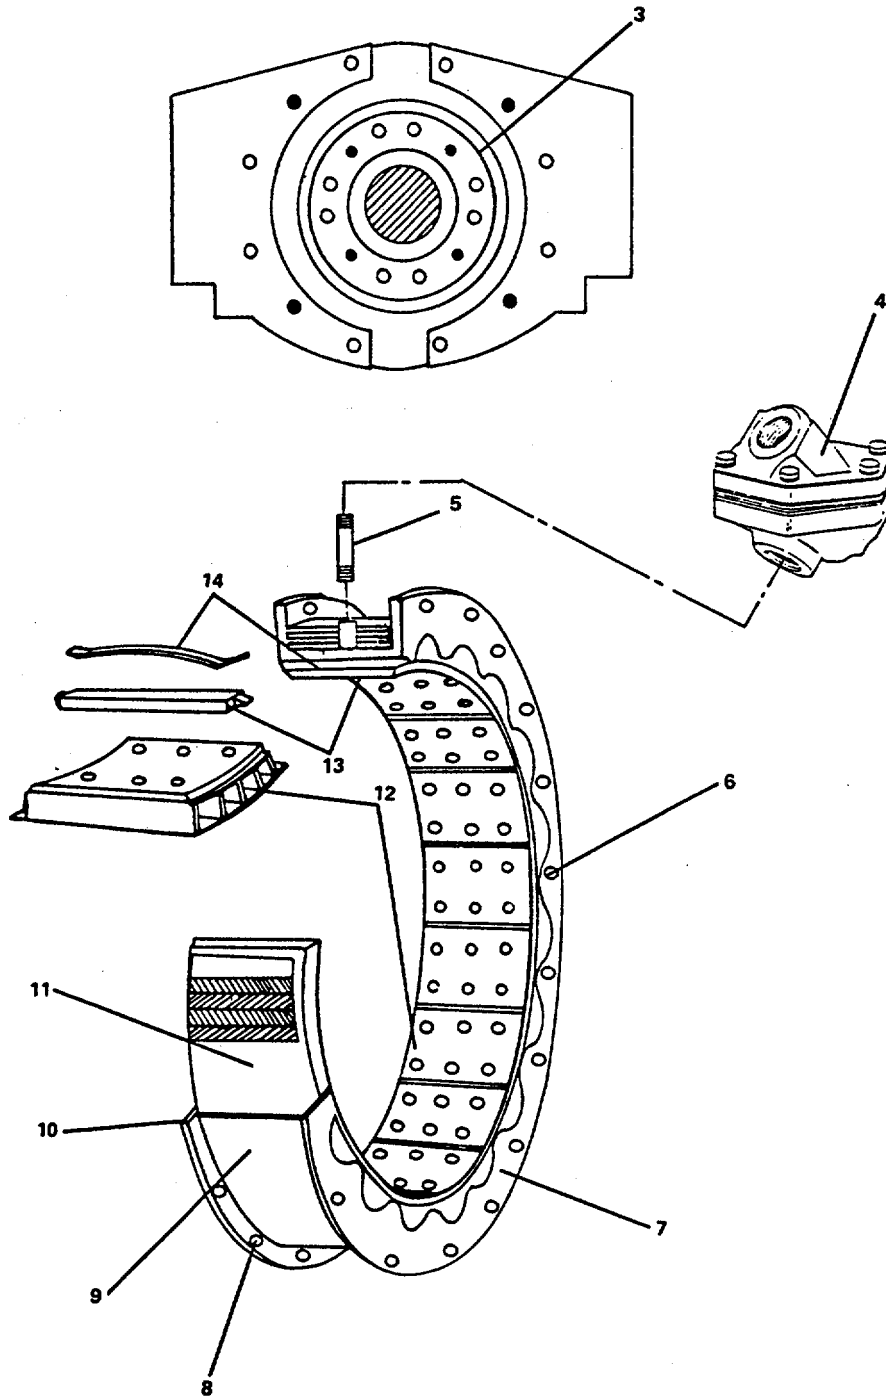
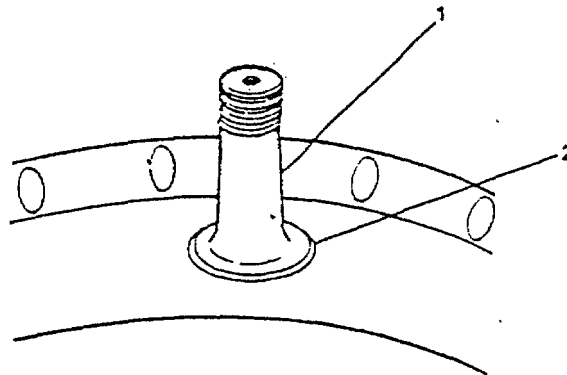

FIGURE 3-191. Expander Tube Brake Drum.
FIGURE 3-192. *Rubber Actuating Tube.*
- (1) Disconnect air tubing from IN port of quick exhaust safety release valve (4).
- (2) Remove quick exhaust safety release valve (4) from straight adapter (5).
- (3) Remove straight adapter (5) from rubber actuating tube valve (1), Figure 3-192 .
- (4) Remove snap ring (2) securing rubber actuating tube valve (1) to the rim. Replacement snap ring is furnished with replacement tube.
- (5) Using smooth bar, insert bar between rubber actuating tube (11, Figure 3-191) and rim (9) and force actuating tube valve (1, Figure 3-192) to clear hole in rim and pull tube out of rim.
- (1) Inspect each friction shoe assembly (12, Figure 3-191) for broken or cracked flat release springs (14) and torque bars (13). Replace defective springs and torque bars with new ones.
- (1) Install replacement rubber actuating butt end tube (11) in brake element center rim (9), positioning tube air valve (1, Figure 3-192) up through rim opening.
- (2) Install snap ring (2) on air valve (1).
- (3) Install straight adapter (5, Figure 3-191) on actuator tube air valve (1, Figure 3-192).
- (4) Install quick release exhaust valve (4, Figure 3-191) OUT port onto straight adapter (5).
- (5) Connect air tubing to quick release exhaust valve (4) IN port.